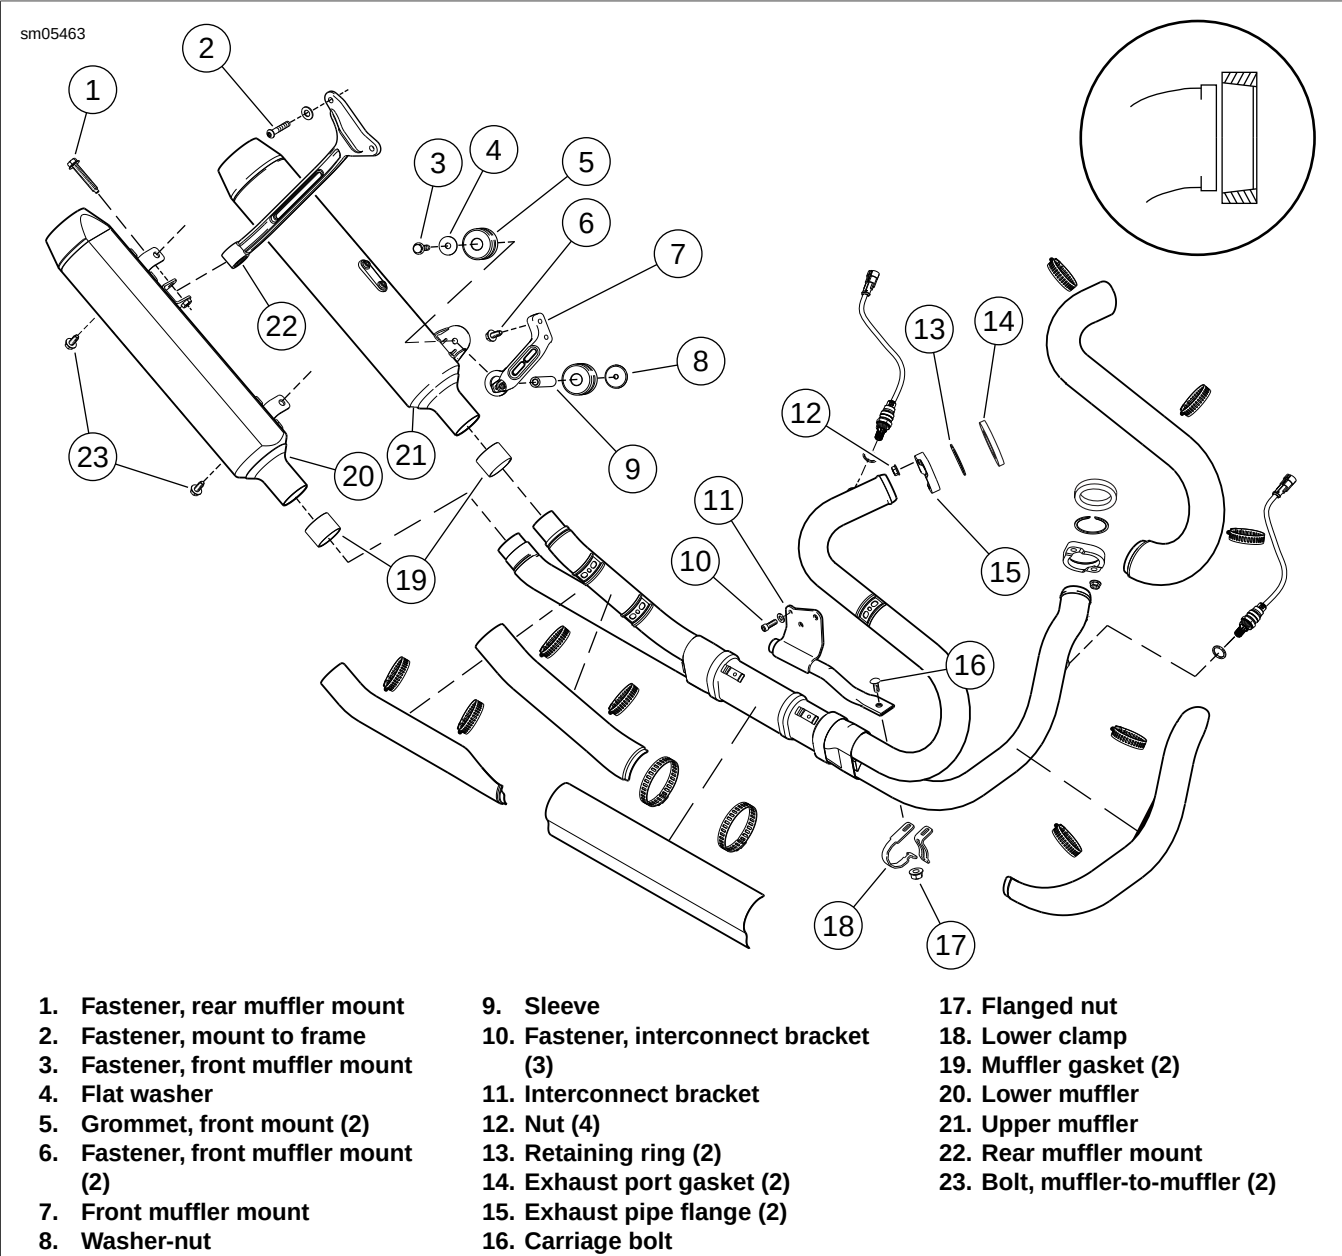

Figure 4-72. Exhaust System: XR Models
- See Figure 4-72. Remove forward muffler mount fastener (3) and washer-nut (8).
- Remove two bolts (23) fastening mufflers together.
- Slide upper muffler (21) back off header pipe to remove.
- Remove rear muffler mount fastener (1).
5. Rotate lower muffler (20) counterclockwise to disengage from the rear mount (22) and slide back off header pipe to remove.
6. Remove mount grommets (5) and sleeve (9).
7. Inspect rear mount (22) and replace if damaged.
8. Inspect muffler seals (19) and replace if necessary:
3. See Figure 4-72. Loosen or remove head pipe heat shields to gain access to header pipe flange nuts (12).
4. Remove flange nuts (12) and pull flanges (15) off from studs.
5. Remove nut (17) and carriage bolt (16) from lower clamp (18).
7. Inspect exhaust port gasket (14) and replace if necessary.
- b. Push new gasket into place with the larger ID facing the header pipe, as shown in the inset in Figure 4-72.
8. Remove retainer rings (13) and flanges (15) if necessary.
9. If necessary, remove mount brackets (7, 22) and interconnect bracket (11).
1. See Figure 4-72. If removed, install flanges (15) and retaining rings (13).
3. Place head pipe assembly in position and loosely secure lower clamp (18) with carriage bolt (16) and flange nut (17).
4. Install flanges (15) and secure with nuts (12) finger tight. do not tighten until mufflers are installed.